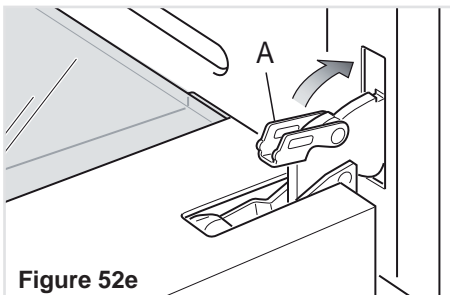

Figure 52e
- Unlock the oven door by opening it completely and closing the lever "A" on the left and right hinges (fig. 52e).